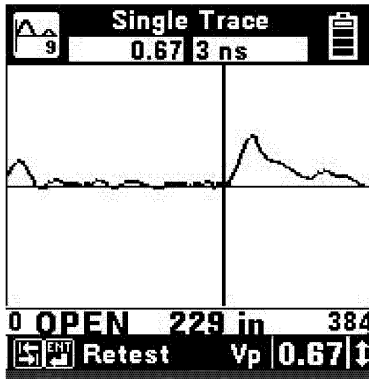

Figure 27. AST900 Open Circuit Fault Display
(1) If the Auto TDR detects an open circuit, the cursor is positioned at the location of the open circuit and OPEN is displayed below the trace. (Figure 27)
(2) If the Auto TDR detects a short circuit or low resistance fault, the cursor is positioned at the location of the short circuit and SHORT is displayed below the trace.
(3) If the most significant event is the target contact, the Auto TDR positions the cursor at the target contact point (zero distance) and displays EVENT below the trace. This usually means that there was no fault found in the selected length.